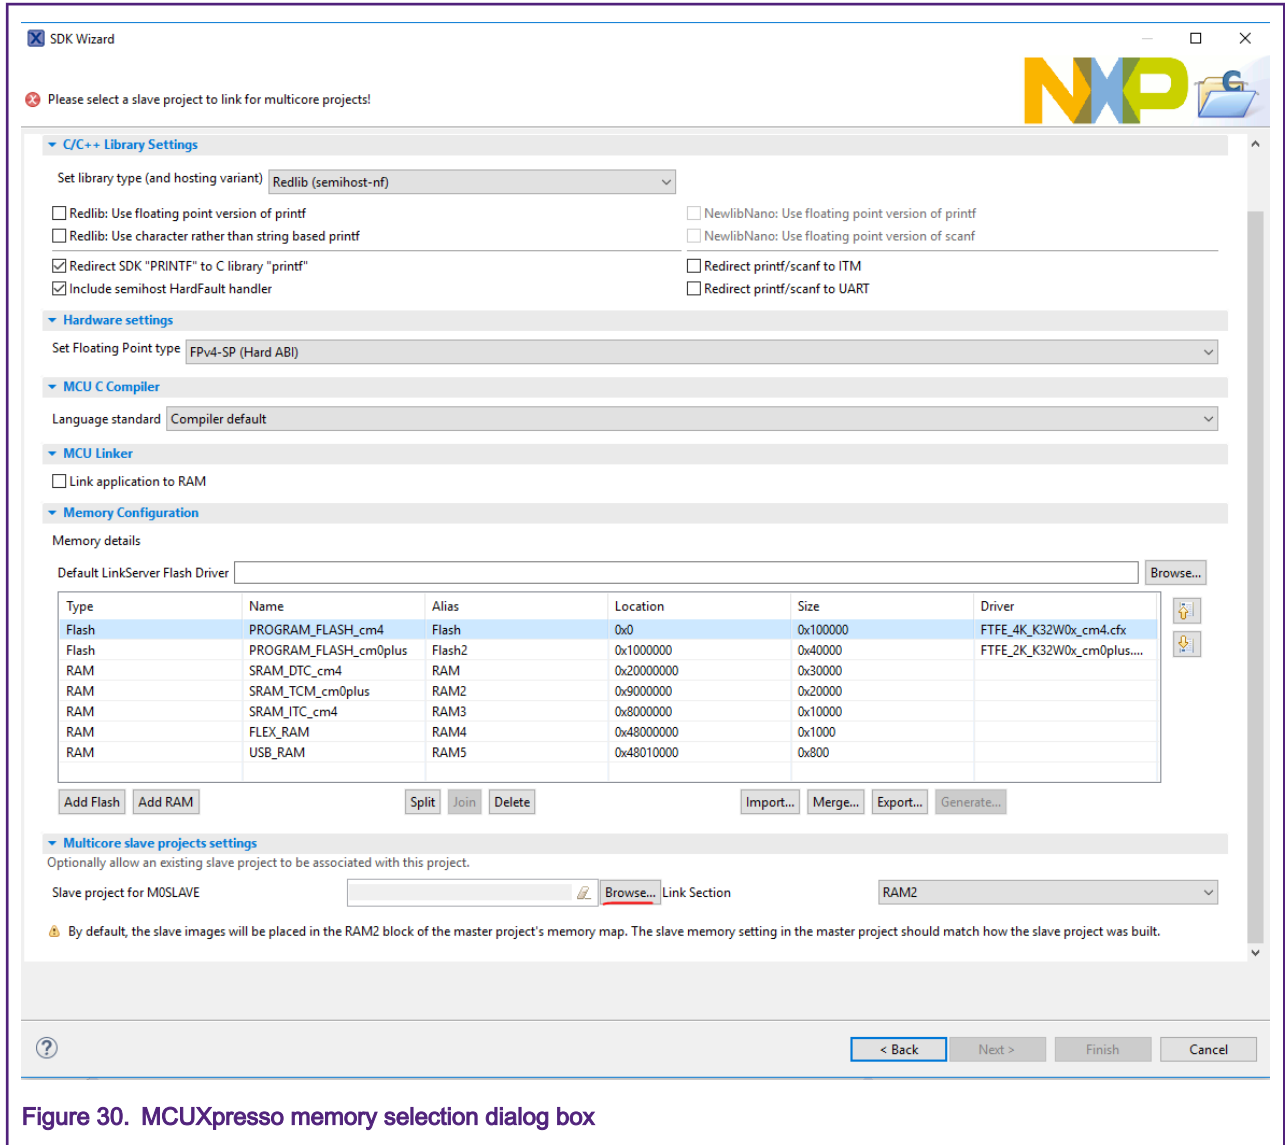

Figure 30. MCUXpresso memory selection dialog box
3. Click **Browse** next to the Slave project for **M0SLAVE** selection box (as shown in Figure 30) to select the Slave project within the Workspace.